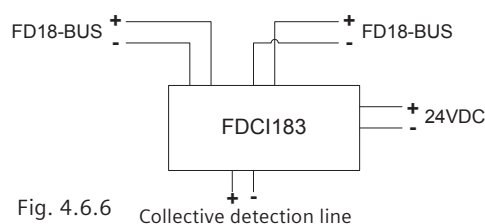
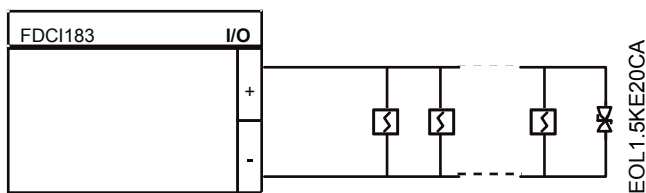
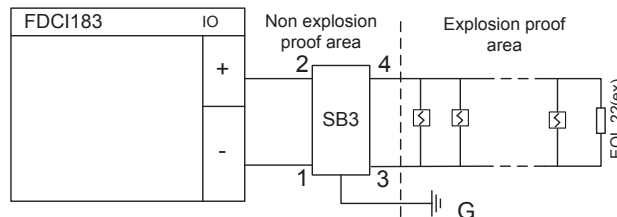

Fig. 4.6.6
Fig. 4.6.7 Detection line connection
Fig. 4.6.8 Detector line with safety barrier (the earth fault monitoring must be switched off)
1. Connect the cables to the terminals according to the connection diagram (Fig. 4.6.6, Fig. 4.6.7, Fig. 4.6.8).
2. Connect the line terminators (EOL). These must be connected to the end of the line (Fig. 4.6.7 /Fig. 4.6.8).